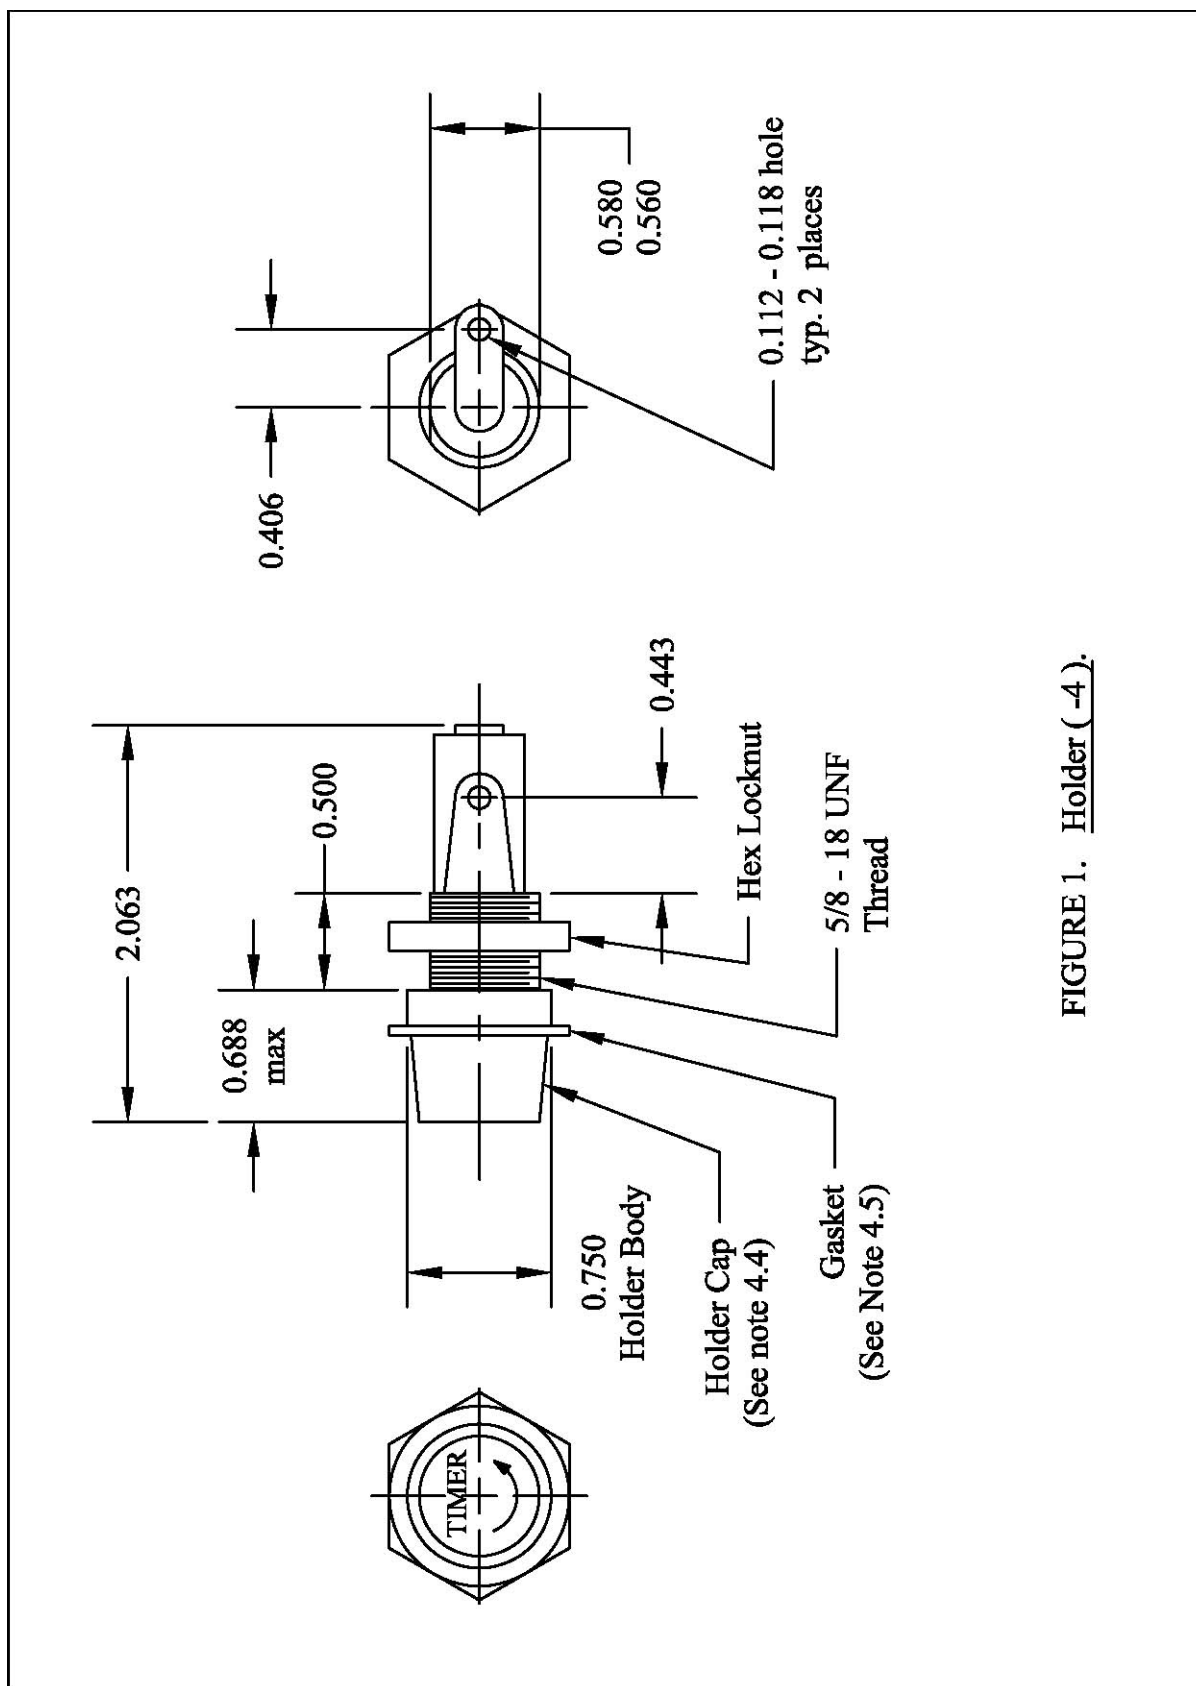

FIGURE 1. Holder (-4).
2.1 Dimensional. The indicator shall conform to the dimensions given in figures 1 through 3.